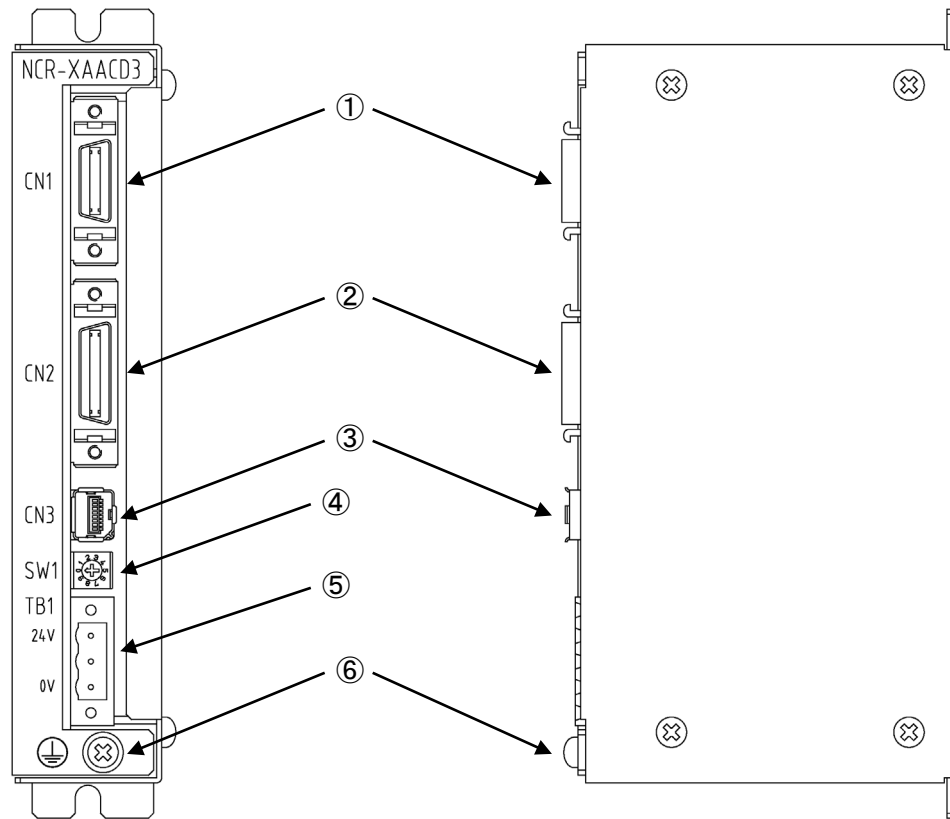

Figure 5-2 Outline drawing of the encoder distribution unit
An outline drawing of this device is shown in Figure 5-2 Outline drawing of the encoder distribution unit. The name and function of each part is listed in Table 5-1 Name and function of each part.
The frequency dividing rate can be switched with the rotary DIP switch, i.e., frequency dividing rate setting switch (SW1) ④ shown in Figure 5-2 Outline drawing of the encoder distribution unit.